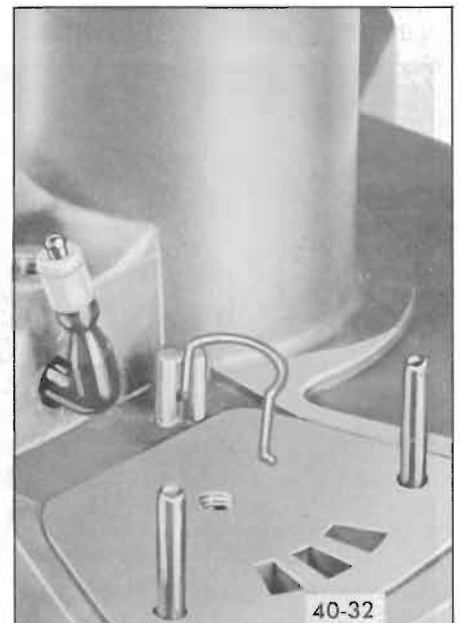

Figure 40-32—Installing Valve Tension Spring in Boss
3. Install longer foot of valve tension spring in boss on first stage housing being careful not to distort spring. See Figure 40-32.